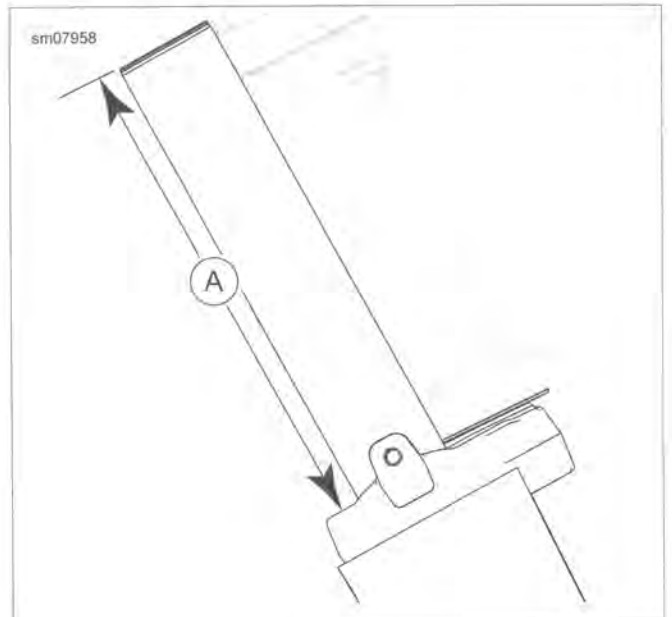

Figure 2-68. Measured Fork Height
- b. Measurement method: See Figure 2-68. Set top of fork to a measurement (A) of 8.695 +/- 0.060 in (220.85 +/- 1.52 mm) from the top rear of the lower fork bracket.